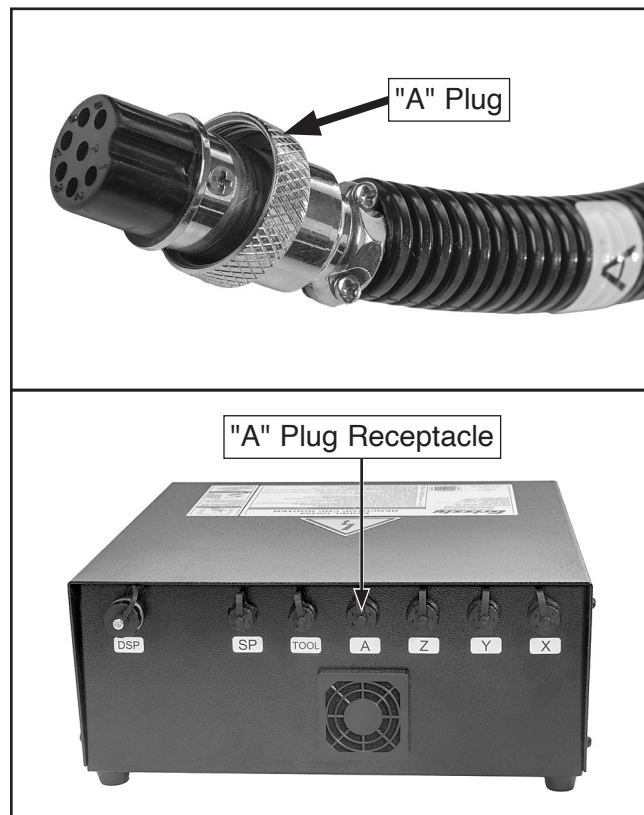

Figure 9. Location of kit electrical connection on Model G0403 control box.
8. Loosen (2) rotary table T-slot clamps $\frac{1}{4}$ turn and pivot mount until distance from both corners to nearest available T-slot are the same, then tighten T-slot clamps to secure.
10. Connect "A" plug from rotary table to matching receptacle on rear of Model G0403 control box, as shown in **Figure 9**.